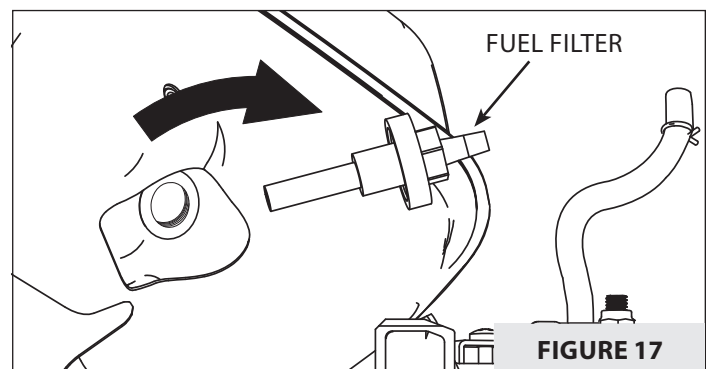

FIGURE 17
7. Remove fuel tank filter by using proper size socket to turn filter counter clockwise. **SEE FIGURE 17.**